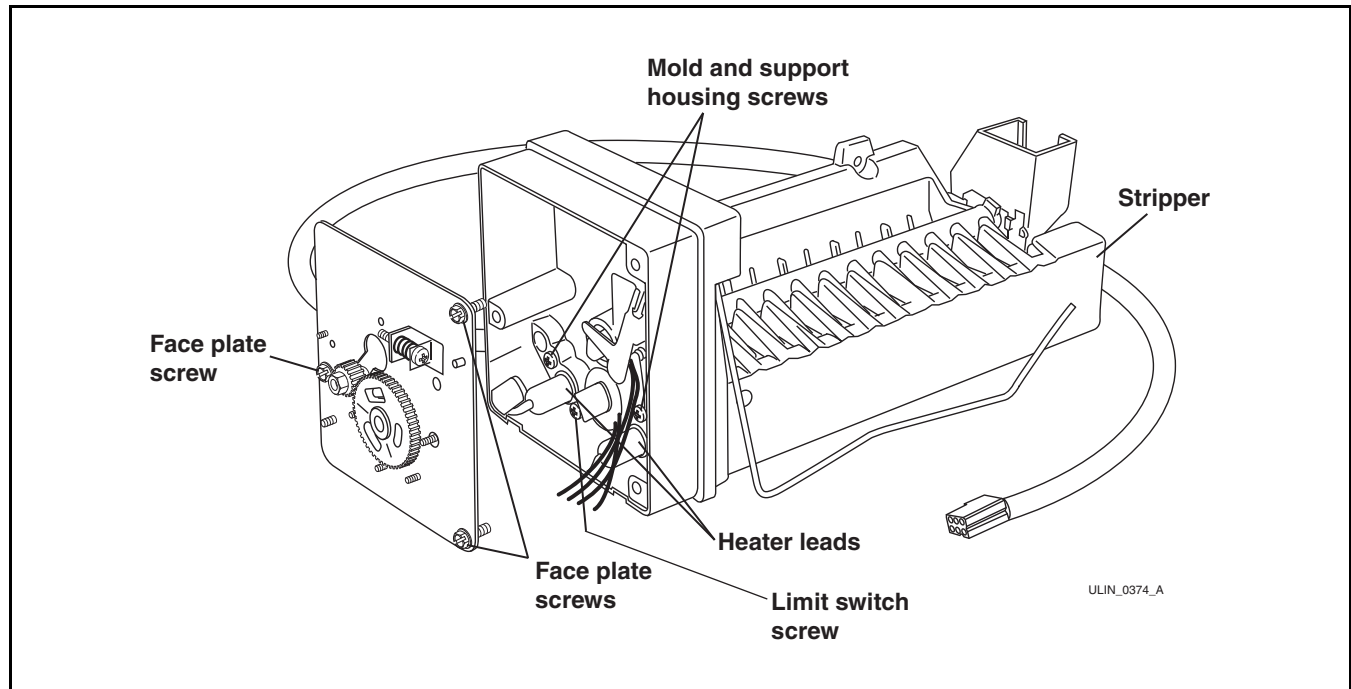

Figure 61
2. Remove one stripper screw (**Figure 61**) and stripper.